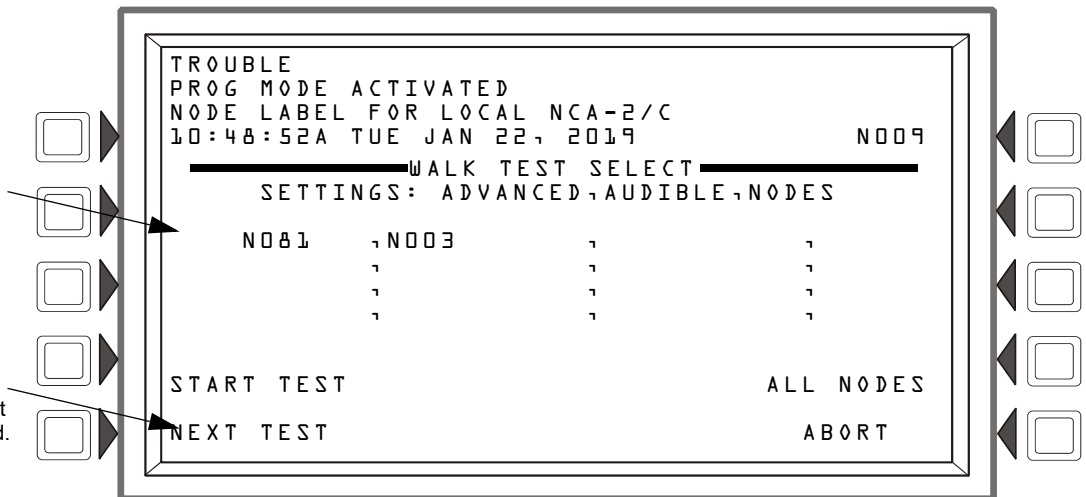

Figure 5.13 Walk Test Select Screen
- **PARAMETER** - Toggles between NODES, LOOPS, DEVICES, and ZONES (LOOPS and ZONES are for use with NFS2-3030 only). Selecting NODES in this field allows multiple nodes to be tested (see Figure 5.13 on page 63). If NODE is selected, you will have an ALL NODES option, allowing you to put the entire network into Walk Test mode. NOTE: This is limited to the nodes mapped to the NCA-2.